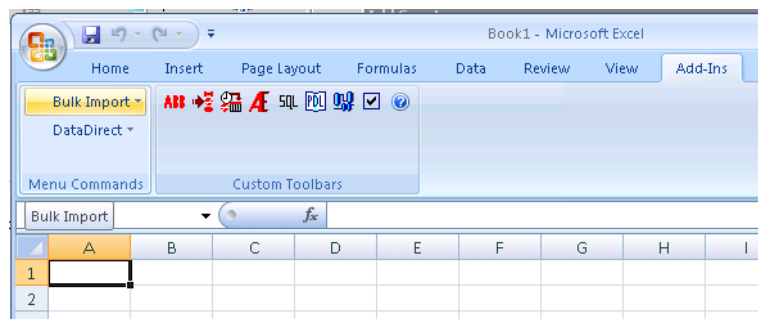

Figure 168. Initializing the Workbook for Bulk Configuration
2. Choose **Bulk Import>Initialize Sheet**, Figure 168.